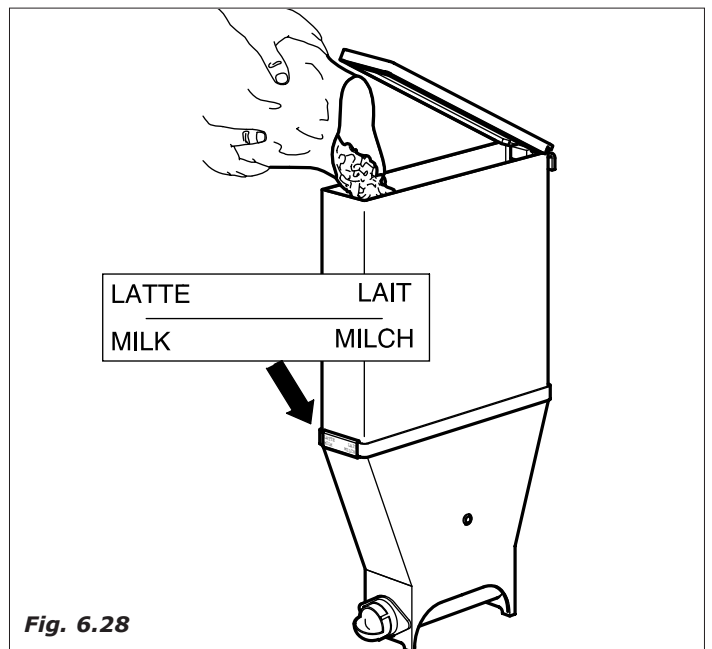

Fig. 6.28
- remove the covers of each container and load the product according to the product indicated on the label (Fig.6.28)